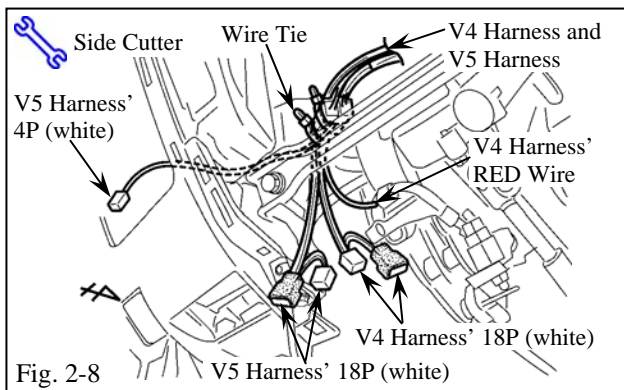

Fig. 2-8
- (j) Route the V5 harness and V4 harness toward the driver side J/B area, then secure it to the vehicle harness with one wire tie. (Fig. 2-8)
- (k) Route the V5 harness' white 4P connector toward the driver side J/B area as shown. (Fig. 2-8)